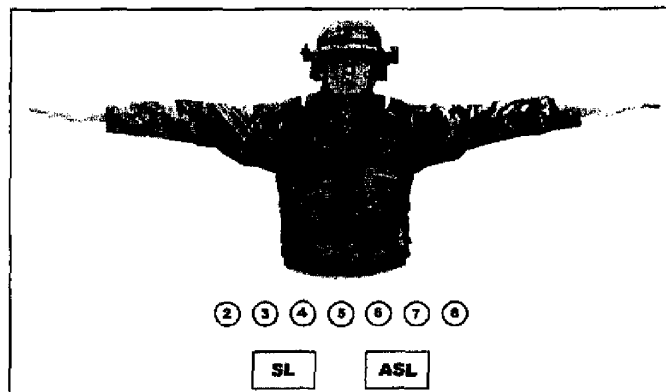

Figure 191-376-4122-4. Hand signal for a squad line formation
- 4. Form a squad line formation using the hand signal as shown in Figure 191-376-4122-4. Assume the safe-port position when the command "squad as skirmishers" is given or when the squad leader gives the hand-and-arm signal for a squad line formation.